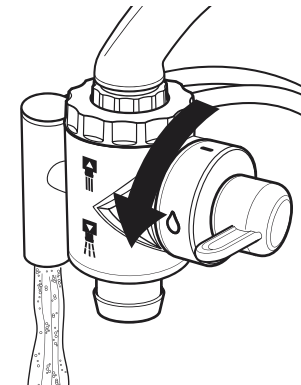

Figure 3.27 – Opening Diverter Valve
2. Open the diverter valve by turning the handle to the horizontal (filter) position (see Figure 3.27). This will begin the water flow to the filter system.